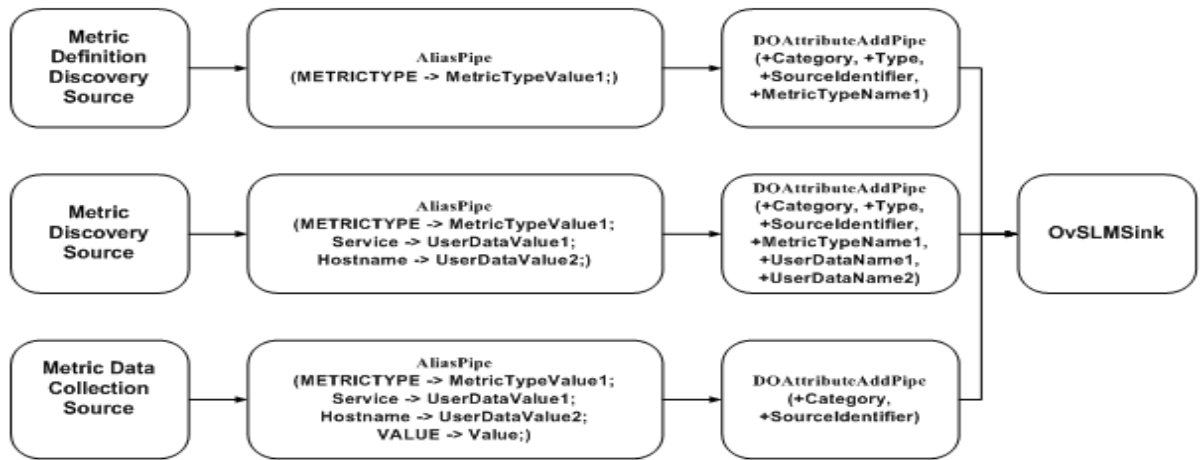

Figure 15: Blueprint of the Adaptor EasyOpenMA”
- The blueprint looks like Figure 15.